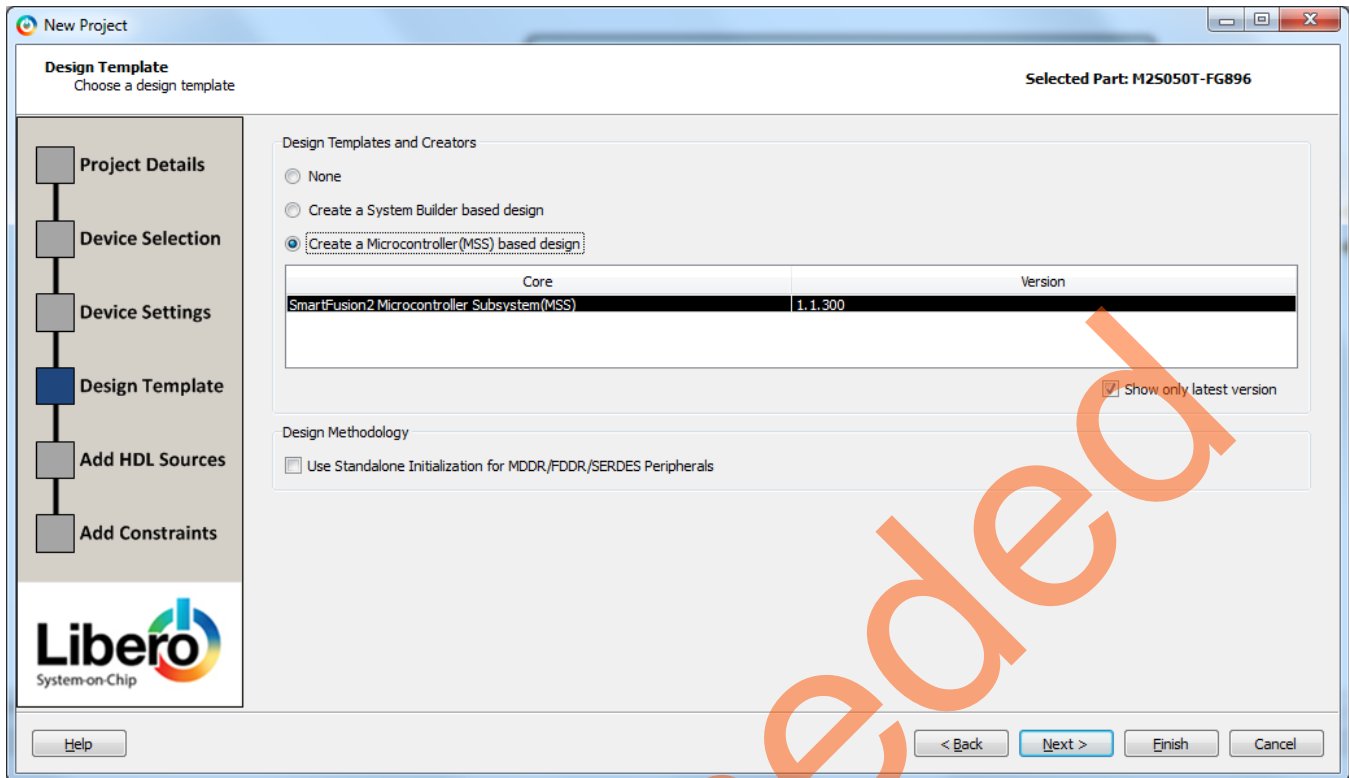

Figure 4. New Project – Design Template Page
6. Click **Next**. Figure 4 shows the **Design Templates and Creators** page and select the **Create a Microcontroller (MSS) based design** check box under **Design Templates and Creators**. If the selected MSS core version appears in italics, it means that the selected MSS Core is not available in the vault and it requires to be downloaded. To download, select the MSS core and click **OK**. The tool prompts for downloading the MSS core. Click **Yes** on the message prompt. The tool downloads the selected MSS core.
If the selected MSS core appears in normal font, as shown in Figure 4, it indicates that the MSS core is present in vault.